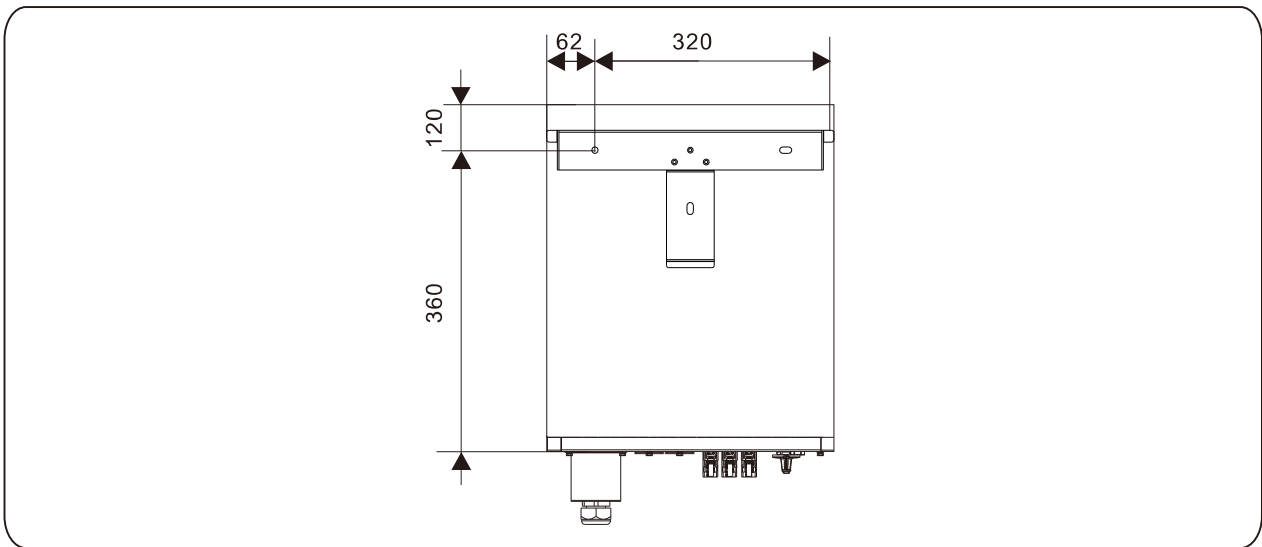

Figure 4.9 Determine the positions for drilling holes (unit: mm)
**Step 2** Determine the positions for drilling holes (as shown in Figure 4.9) using the rear panel.